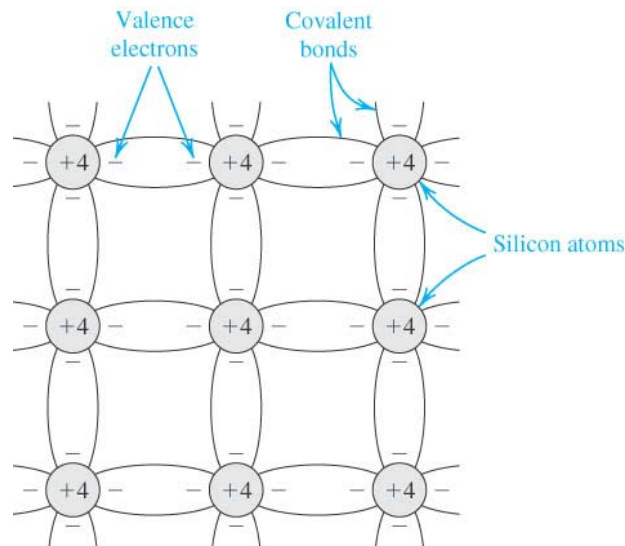

Figure 4.1: Two-dimensional representation of the silicon crystal.
- Figure 4.1 shows the 2-D structure of the intrinsic silicon.